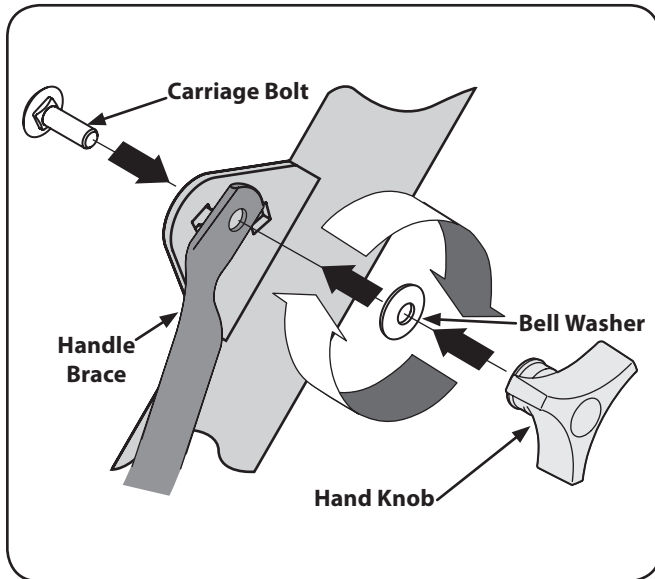

Figure 3-4
7. Tighten the bolt securely after securing the handle brace as seen in Figure 3-4.
9. Insert the carriage bolt through the welded bracket on the handle, bell washer, handle brace and into the hand knob. See Figure 3-4.
10. Select one of the three handle height positions (three notches in the welded handle bracket) and tighten the hand knob to secure the handle in the desired position. See Figure 3-4. Return to the lower handle and tighten the hex bolt securely.